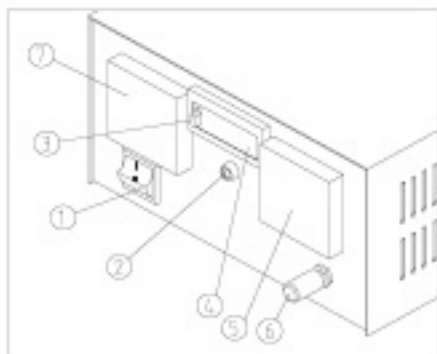

Figure 16
(1) After connect with main power supply, please set the switch 1 on fluorescence power supply at “_” (ON), then the indicator light. It costs 5 minutes to warm up mercury bulb. (Fig. 16)
(2) Use adjusting knob for electric current 6 to make out-put power as same as mercury bulb 100W.